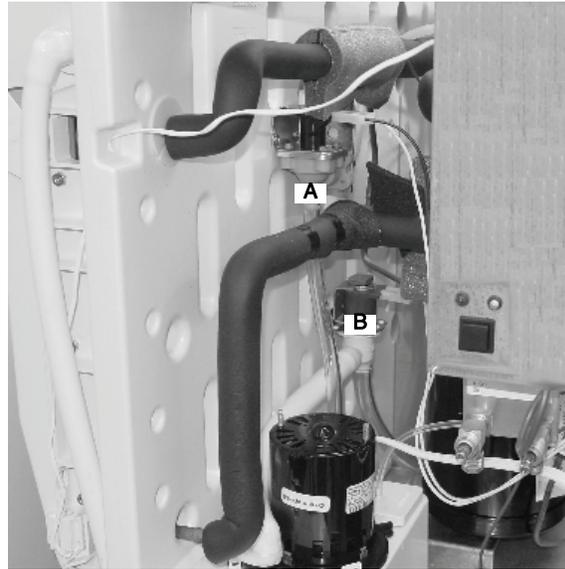

Figure 46.
55. Connect the water fill valve harness (A) (black & white leads) and the water dump valve harness (B) (yellow & white leads) (FIGURE 46).